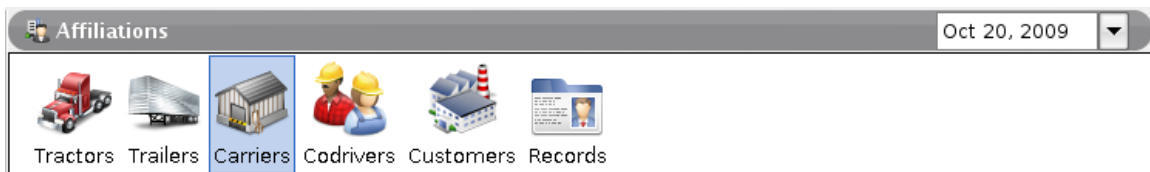

Figure 5.8. Carrier Navigation Item
2. Select the "Carrier" affiliations navigation item see Figure 5.8, "Carrier Navigation Item".